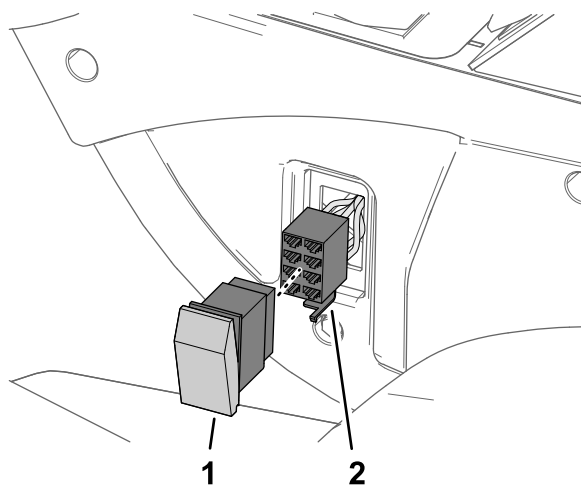

**Figure 14**
- From inside the control arm, press the dash plug out of the hole in the side of the control panel (Figure 14).